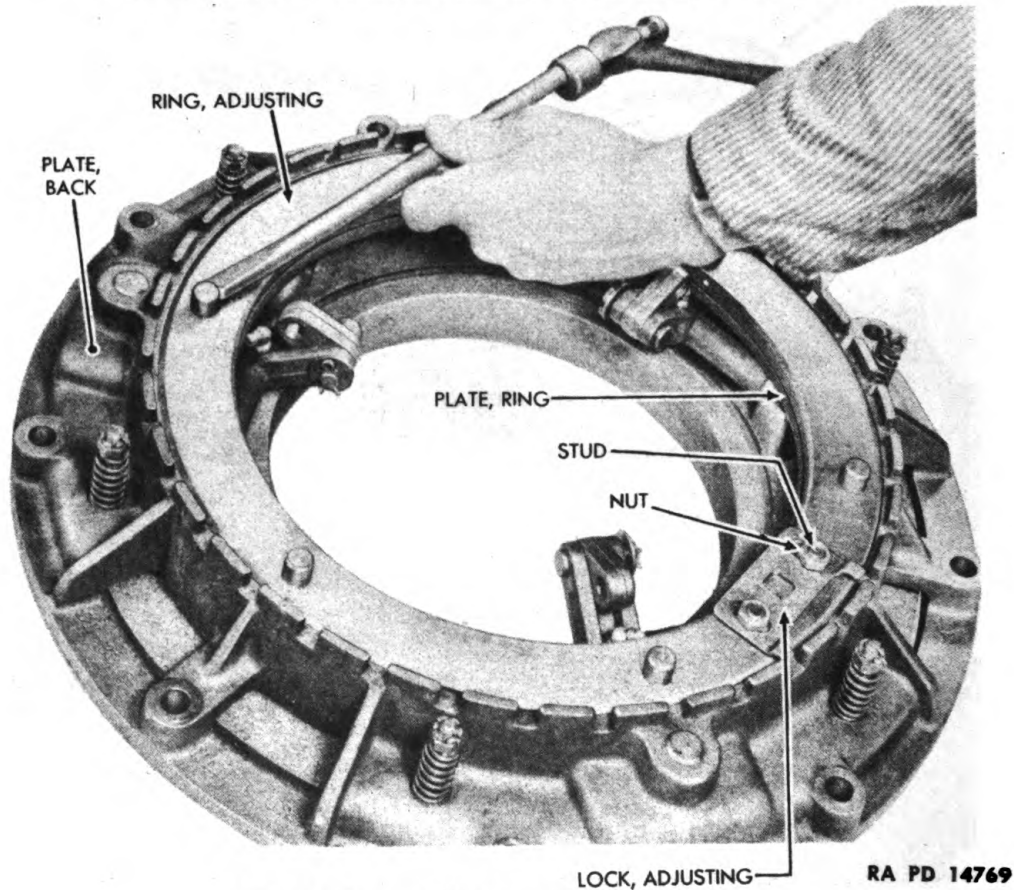

Figure 20 — Adjusting Ring Removal
(4) REMOVE ADJUSTING RING (fig. 20).
- (9) REMOVE ADJUSTING LOCK FROM ADJUSTING RING (fig. 20).
(4) PLACE ADJUSTING RING PLATE IN POSITION IN BACKPLATE, OVER CAMSHAFT (fig. 20).
(5) INSTALL ADJUSTING RING (fig. 20).